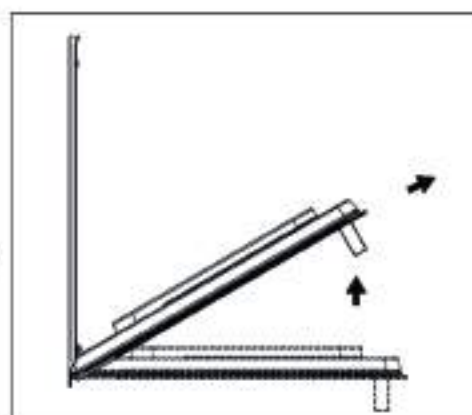

Fig. 2
- Now, shutting the door slightly, you can lift it out by pulling out the hooks "A" as shown in figure 2.